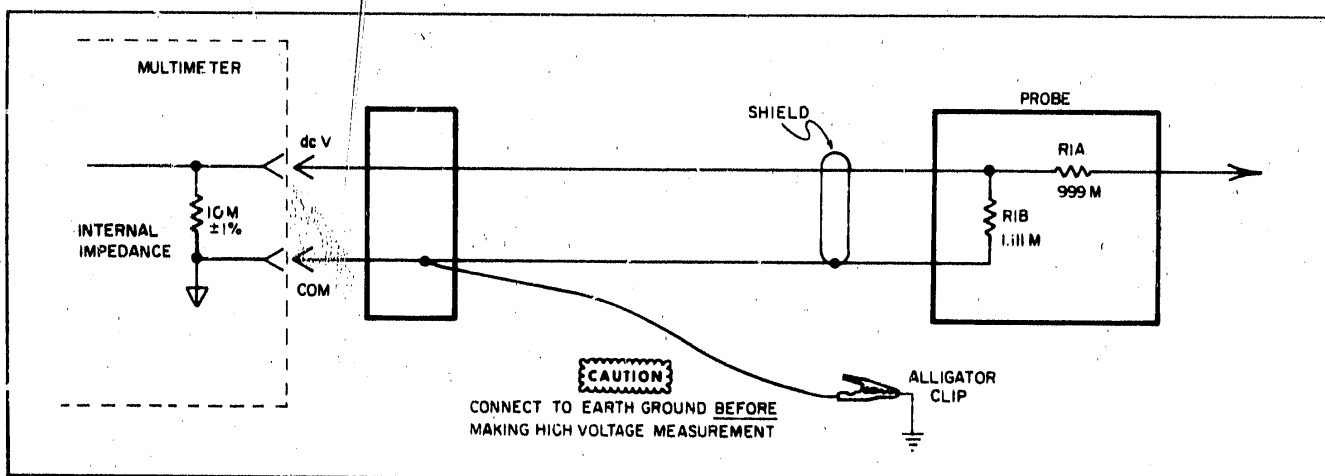

Figure 3. Schematic Diagram.
- A. Figure 3 is the schematic diagram for the -hp- Model 34111A High Voltage Divider Probe.